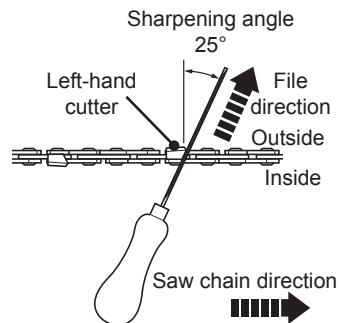

Fig. 46
5. File at an angle perpendicular to the bar, and at an angle of 25° to the direction of travel (Fig. 46).